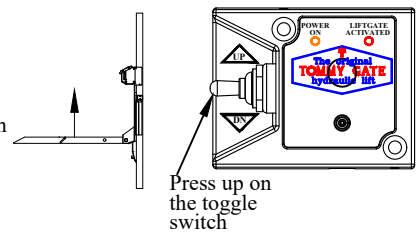

Figure 19: Step 13.
- Step 13. To raise (or lower) the load, stand off to the side, well clear of the platform and push up (or down) on the control toggle switch until the load has reached the desired position. Do not allow the pump and motor to continue to run after the platform has reached it's maximum height or after it has reached an obstruction (Figure 19).